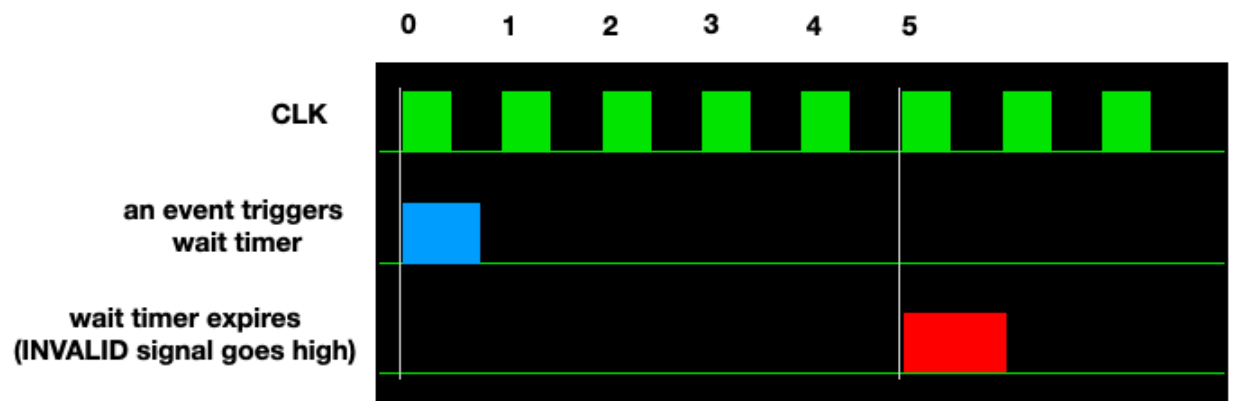

Fig 3. Implementation of 5 cycle wait
2. Wait up to 5 clock cycles for each digit (Fig 3. shows the maximum wait time). If no digit is entered, or if a digit is entered and there is no second digit for 5 clock cycles, go to the idle state.
1. **Verilog source code** for the “vending_machine” module. The file should be named exactly as “vending_machine.v” and the module and port names should exactly match names defined in Figure 3. It is very important as your code is automatically run. Also, note that this code should be completely synthesizable. ***There is no restriction on the naming of the submodules (if any) but make sure to place all the submodules in the vending_machine.v file.